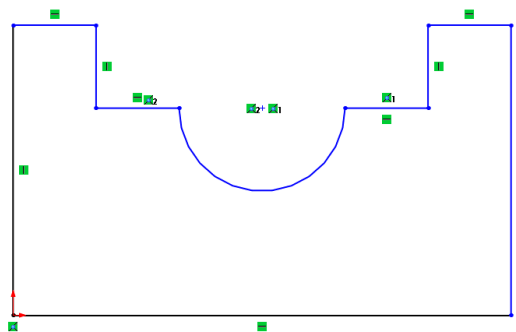

Figure 2-63 Final sketch for Tutorial 2
- Draw the sketch using the **Line** tool, refer to Figure 2-63.
18. Press the F key to modify the drawing display area. The final sketch for Tutorial 2 with the grid display turned off is shown in Figure 2-63.